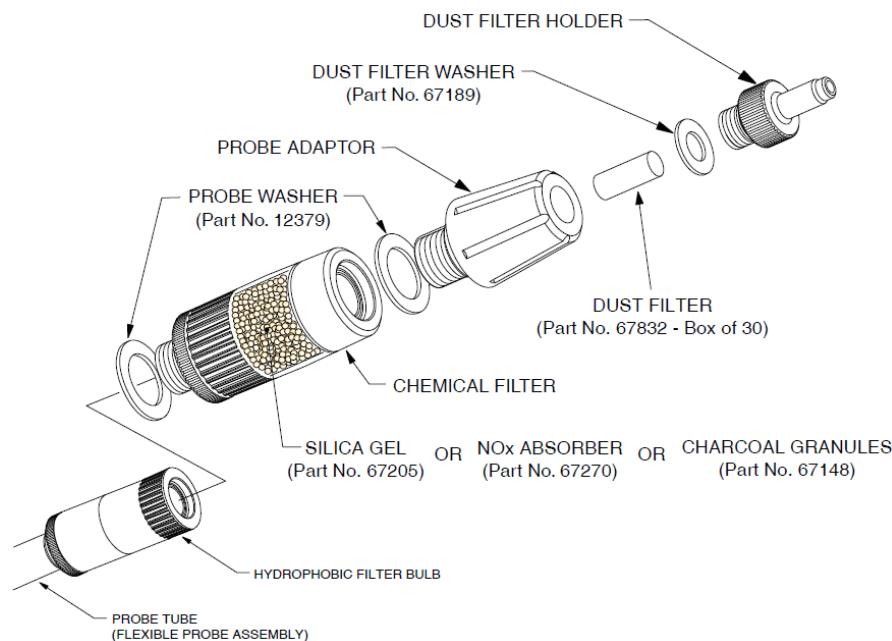

Figure 45: Filter Removal
2. Remove the probe adaptor from the chemical filter assembly, as shown in Figure 45: Filter Removal.